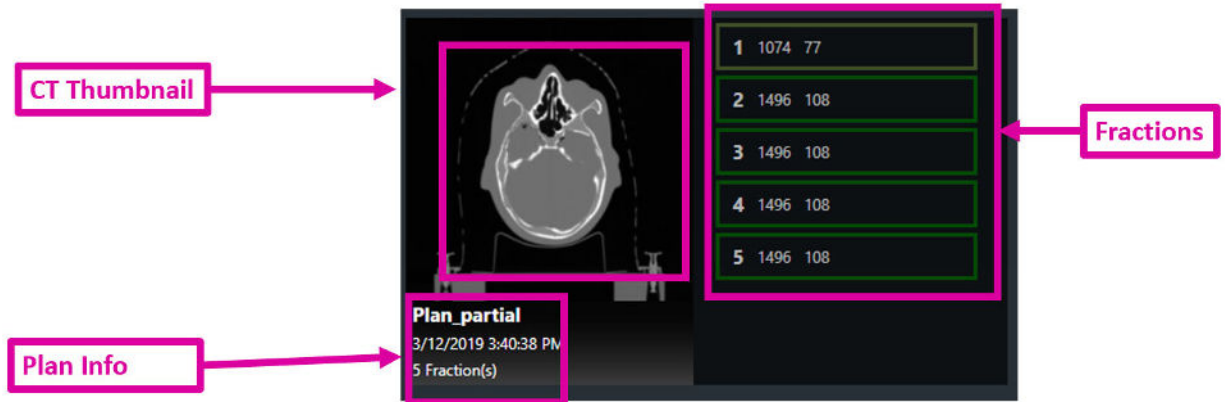

Figure 5.2.2. Close up of a plan.
Figure 5.2.2 shows a close up of one of these plans.
- **Partial Fraction:** Note that fraction 1 in Figure 5.2.2 is outlined in a lighter green, and that the beam count is less than the other fractions. These indicate that the fraction was partially delivered, and that additional delivery is needed.